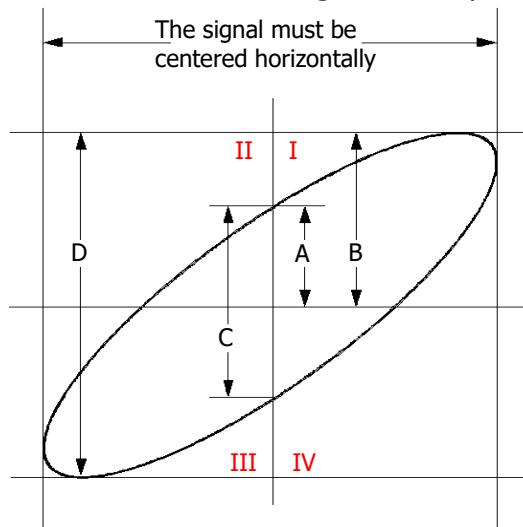

Figure 3-2 Measurement Schematic Diagram of Phase Deviation
5. Observe the measurement result shown in the figure above. According to the measurement schematic diagram of the phase deviation (as shown in Figure 3-2), $A/B (C/D) = 1$. Thus, the phase deviation angle $\theta = \pm \arcsin 1 = 90^\circ$.